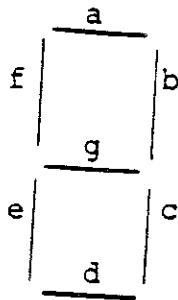

FIGURE 5
The display and status LEDs are controlled by the microprocessor. DS101 displays a one (1) when Q407 is turned on. When Channel 10 is selected, the base voltage will be 0.7 V. DS102 is driven by a BCD to seven-segment decoder, IC404. The display segments are defined in Figure 5.
The inputs to IC404 are four (4) BCD (binary-coded decimal) lines (A,B,C, and D) from the microprocessor, IC403. A zero is displayed when the BCD lines are all low (less than 0.8 V) as shown in the table of Figure 5. For a zero, the a,b,c,d,e, and f segments are turned on by pulling Pins 1, 13,10,8,7, and 2 low, respectively. The microprocessor also controls the PRIORITY, MSG, and SCAN LEDs through Q104, Q103, and Q102, respectively. Turning on the transistors causes the LEDs to turn on.